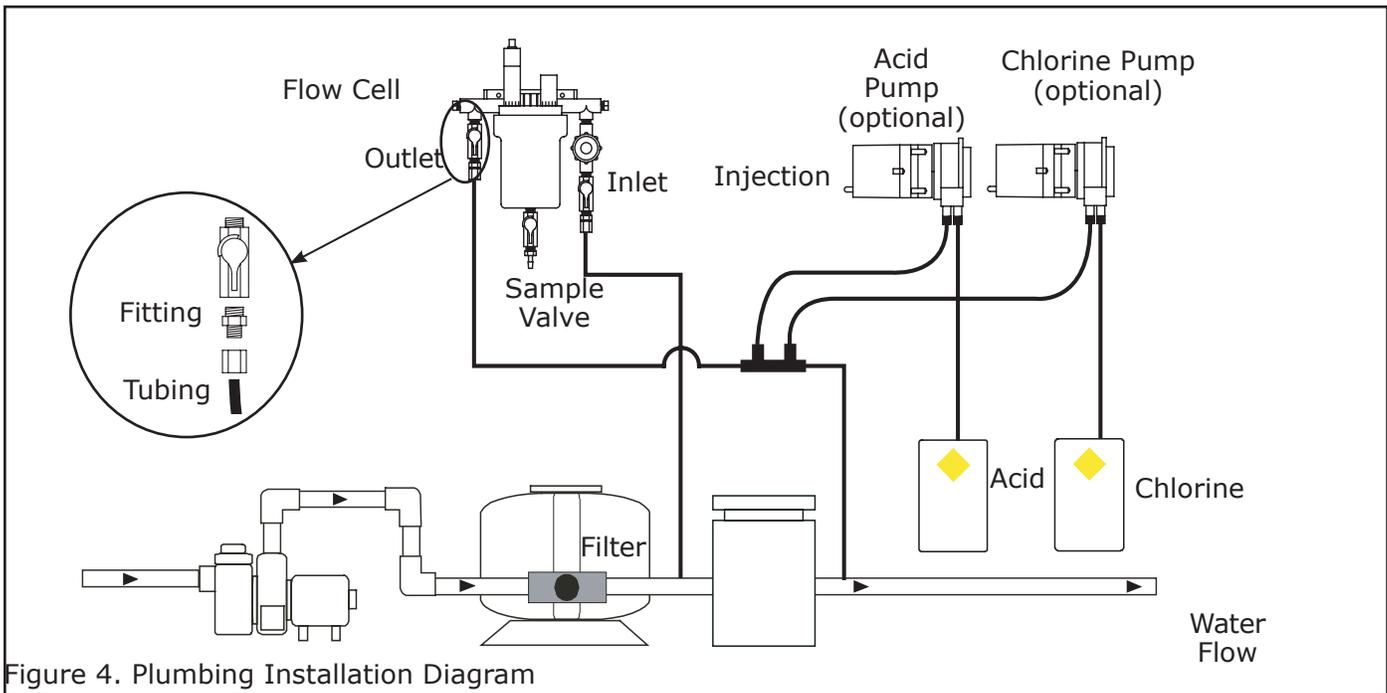

Figure 4. Plumbing Installation Diagram
1. The *AQUA PC On Point* allows the connection and control of 5A maximum to either relay. Mapping out connections prior to installation is recommended due to variations in installation. It is highly recommended to use the configuration in Figure 4 on page 9 as a guide line.
- Attach the IN and OUT tubes to the Flow Cell Inlet and Outlet (see Figs. 4 & 5).